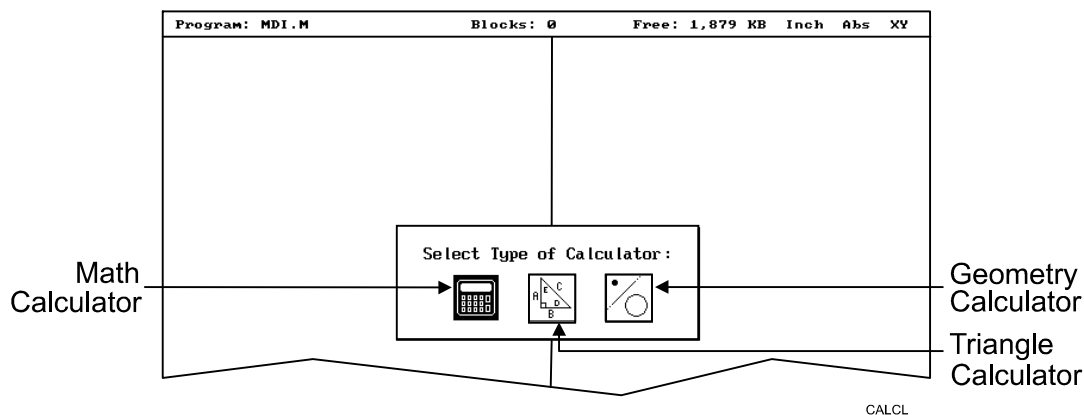

Figure 12-1, Calculator Selection Menu
1. In Edit or MDI Mode, press **Calc (F7)** to display the **Select Type of Calculator:** pop-up menu. Refer to **Figure 12-1**.